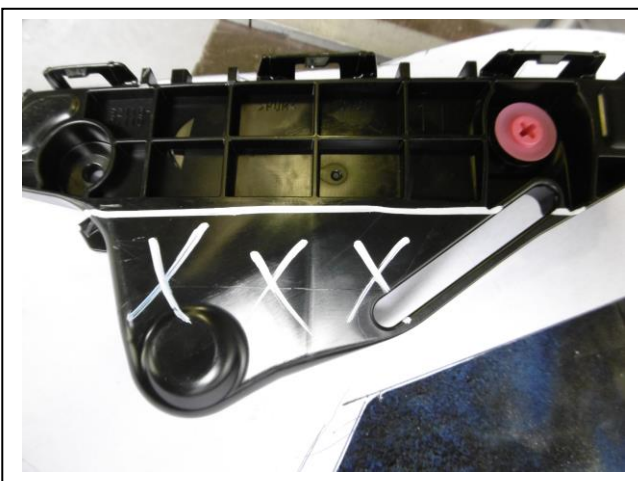

Figure 7. locater trim line
18. Remove bumper side locator and trim as per **figure 7**. (Each side)